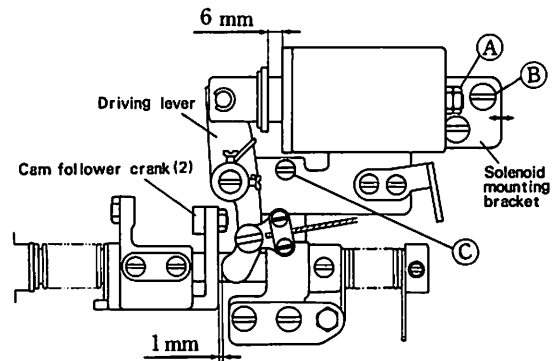
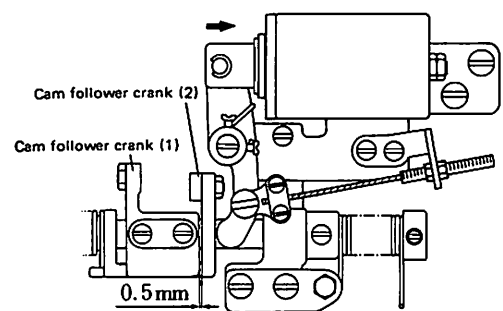

Fig. 8
Fig. 9
(2) Installation of unit
- ① Install the unit with the screws (B) and (C) shown in Fig. 8.
- ② Install the unit so that approximately 1 mm is provided between the driving lever and cam follower crank (2) with the stopper nut (A) in contact with the solenoid.
- ③ When the solenoid is energized under this condition, clearance of 0.5 mm is provided between the cam follower cranks (1) and (2) as shown in Fig. 9. This is the standard installation status. Make adjustment by moving the solenoid mounting bracket in the arrow direction in Fig. 8